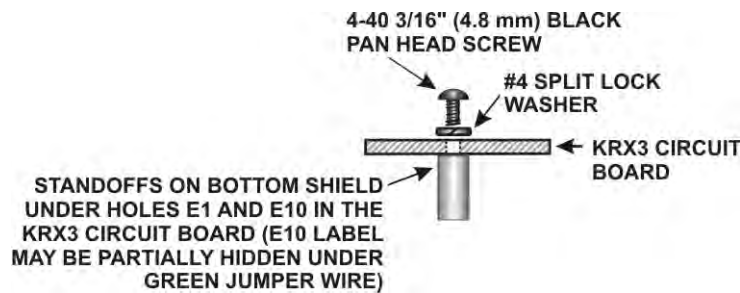

Figure 40. Mounting KRX3 Main PC Board on Bottom Shield.
- Secure the KRX3 main circuit board to the standoffs at E1 and E10 with 4-40 3/16" (4.8 mm) black pan head screws and #4 split lock washers as shown in Figure 40.